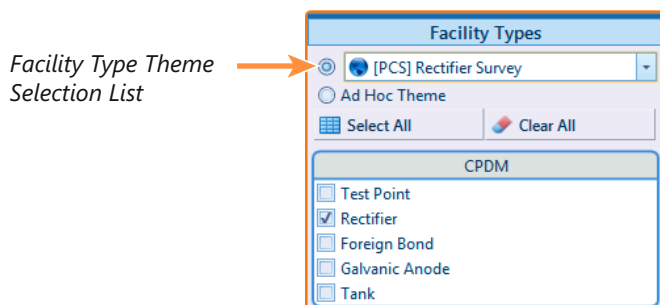

Figure 7-8. Facility Type Theme Option
- a To select a facility type, click the facility type option button and then click the down arrow and select a facility type in the list, such as  **[PCS] Rectifier Survey** (Figure 7-8).